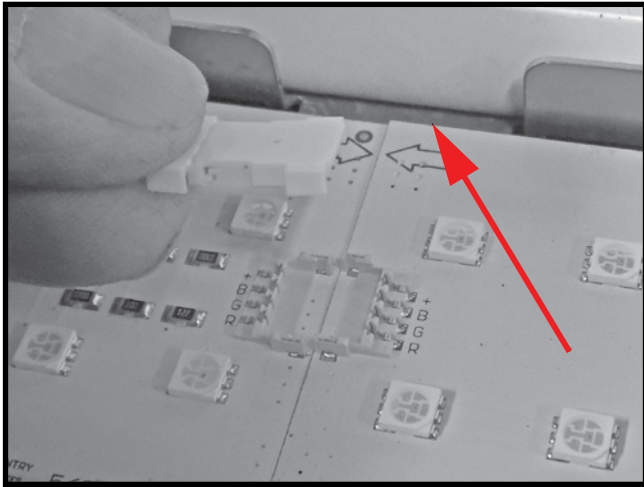

Figure 60: LED strip bridge connector.
5. Remove the bridge connector of the LED section(s) to be replaced (Figure 60). These connector tabs lift up much like the main electrical connector. In this way, individual LED sections can be replaced without removing the entire row of LED sections from the fire feature.
8. Reconnect the individual LED sections using a bridge connector as shown in (Figure 60).